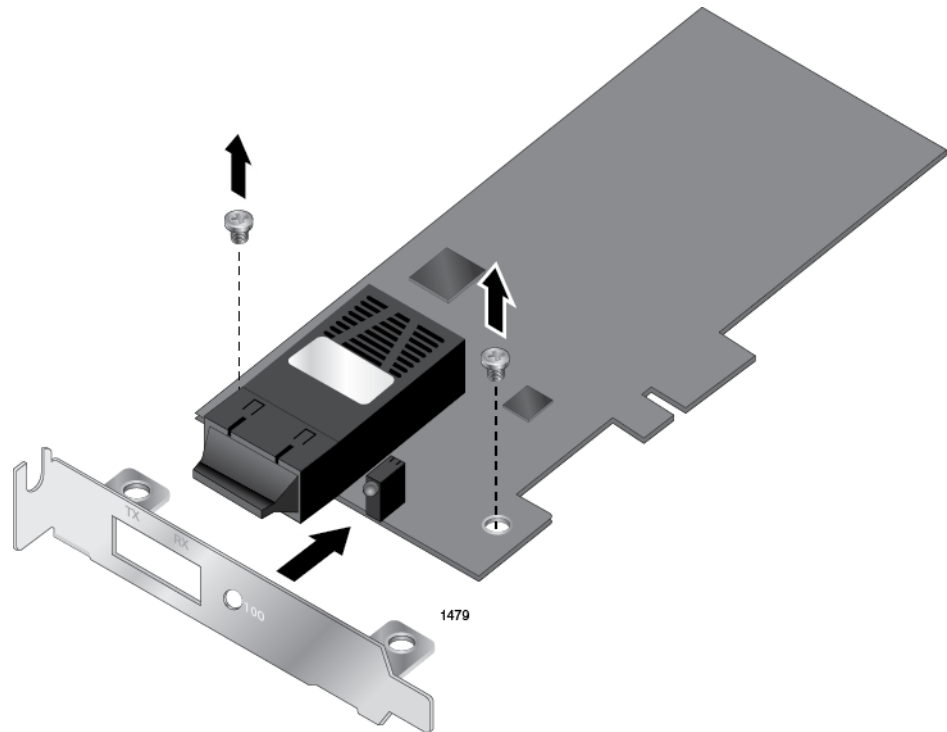

Figure 9. Removing the Low-Profile Bracket
1. Remove the screws that attach the bracket to the adapter card. See Figure 9.